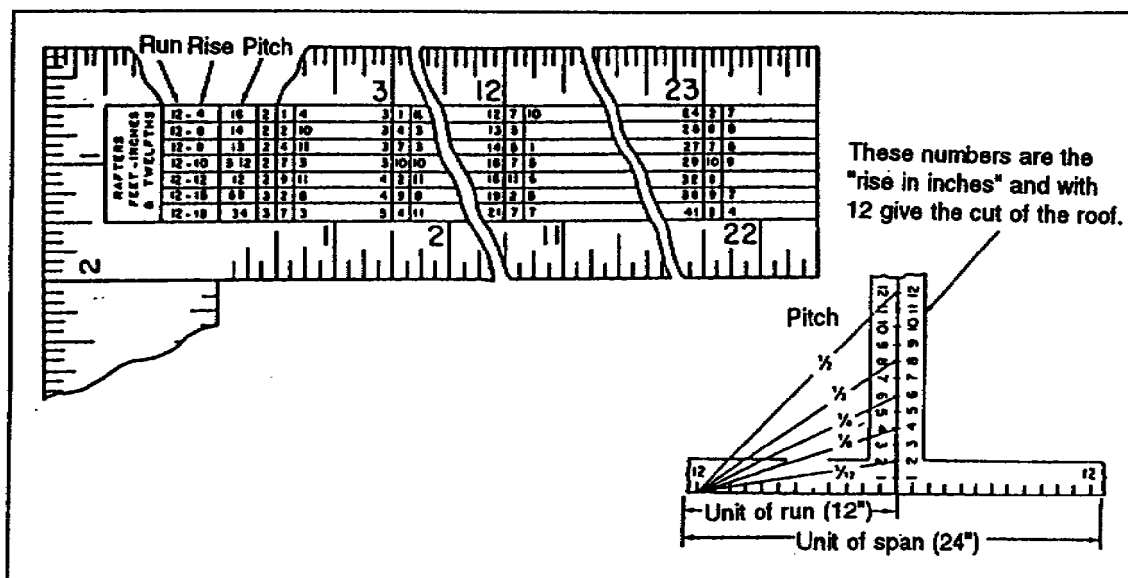

Figure 3-13. Table Method 2
(5) Table Method 2. The rafter table is on the back of the blade of some squares. Figure 3-13 shows the run, rise, and pitch of the rafters of the seven most common roof pitches. The figures are based on the length of the horizontal measurement of the building from the center to the outside (run). The rafter table on the outside edge, on the back of the square, gives both the body and the tongue in twelfths. The inch marks on the square may represent inches or feet, and the twelfth marks may represent twelfths of an inch or twelfths of a foot. The rafter table is used in connection with the marks and figures on the outside edge of the square. You will notice that at the left end of the table there are figures representing the run, rise, and the pitch.